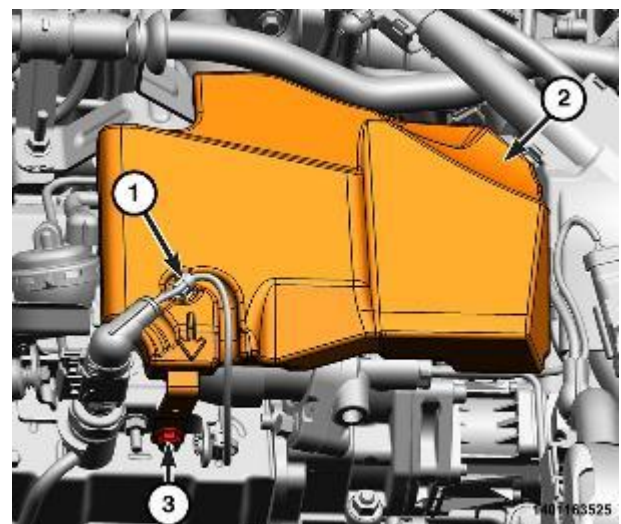

Figure 100 – Fuel Rail Cover
17. Loosen the fuel rail cover nut (3), detach the wire harness retainer (1) and remove the fuel rail cover (2) (Figure 100).